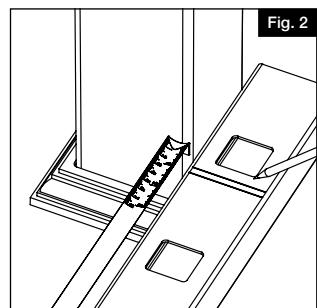

Fig. 2
- Mark $\frac{1}{8}$ " from end of post to allow room for brackets (Fig. 2).